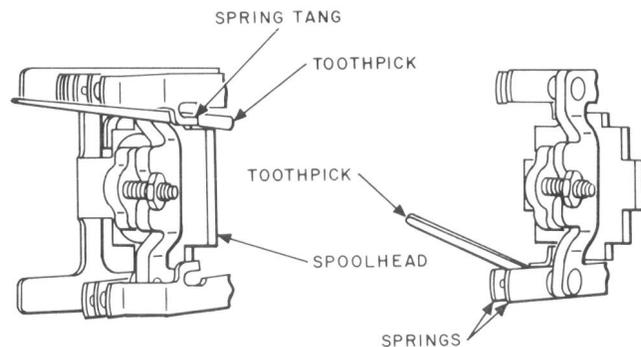

Fig. 46—Blocking Contacts of E- and Similar-Type Relays
5.06 Blocking Contacts of E- and Similar-Type Relays: Fig. 46—Block normally closed contacts' open or normally open contacts so they cannot close by inserting a toothpick between the springs or between the spring tang and the spoolhead.